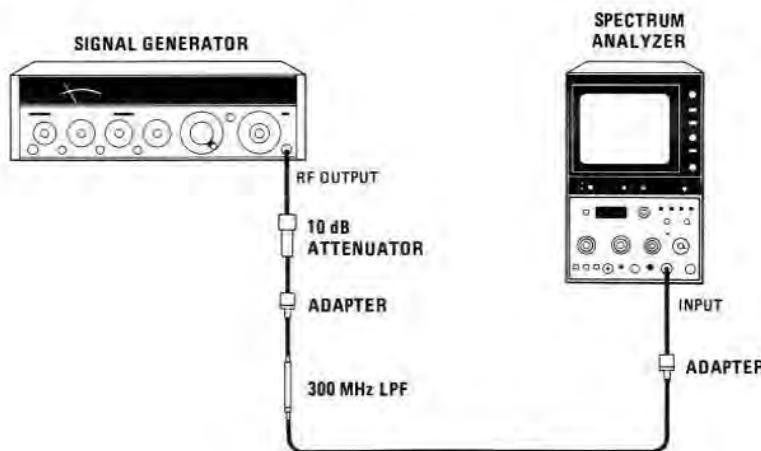

FIGURE 4-13. HARMONIC DISTORTION TEST SETUP
- Connect equipment as shown in Figure 4-13.